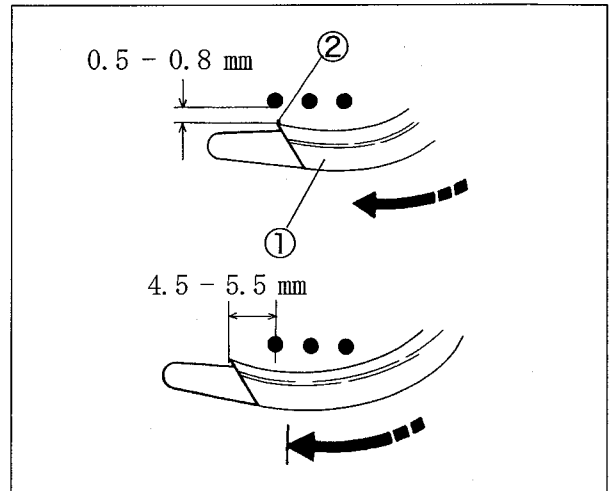

Fig. 6-8
- (2) Make the clearance between the left needle and the hook ② of the spreader ① to 0.5 - 0.8 mm. (Fig. 6-8)
- (3) Make the distance between the center of the left needle and the hook ② to 4.5 - 5.5 mm when the spreader ① is at the extreme left. Then tighten the screw ④ securely. (Fig. 6-8 and 6-10)